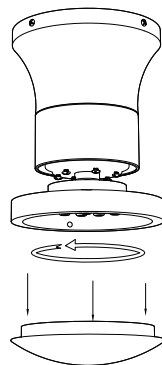

Figure 1
- ① Twist the light cover counterclockwise and take it down. (Figure 1)